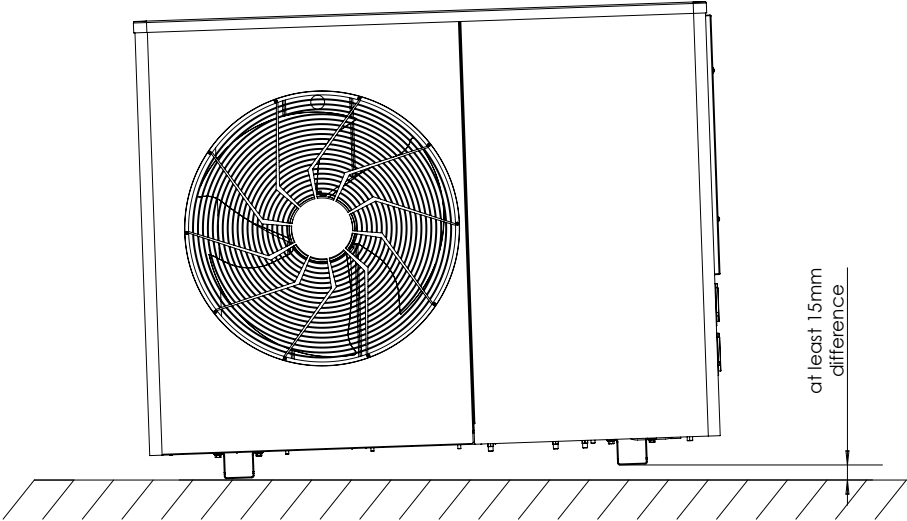

Fig. 3 Tilted angle
- Always keep positive angle of installation according Fig. 3 . Negative angle will cause moisture in the compressor area.